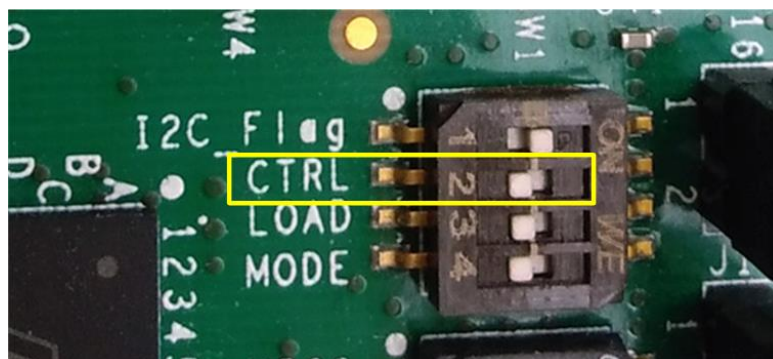

Figure 2-10 Source power to the PCIe for Arria10 SoC board
- 4) Set SW1[2] = OFF position to source power to the PCIe, as shown in Figure 2-10.